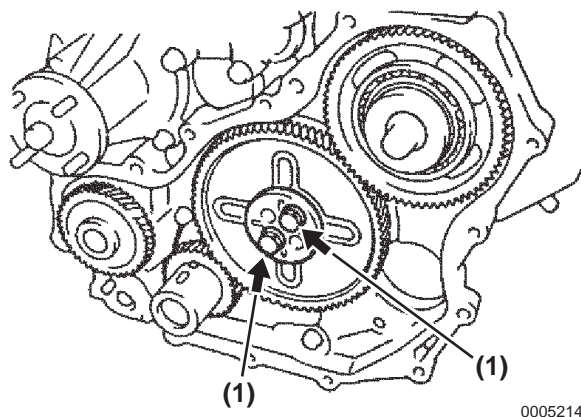

Figure 5-214
10. Install the thrust plate using 2 bolts **(Figure 5-214, (1))** and torque to 694 kgf-cm, 68.06 N·m (50.2 lb-ft).